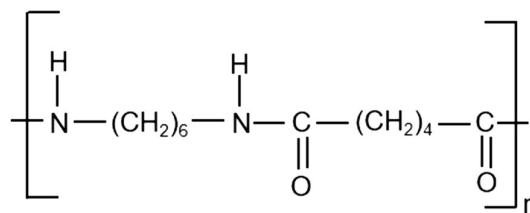

Fig. 11.4
- (d) There are several types of nylon. One type of nylon is nylon-6,6. Fig. 11.4 shows the repeating unit of nylon-6,6.